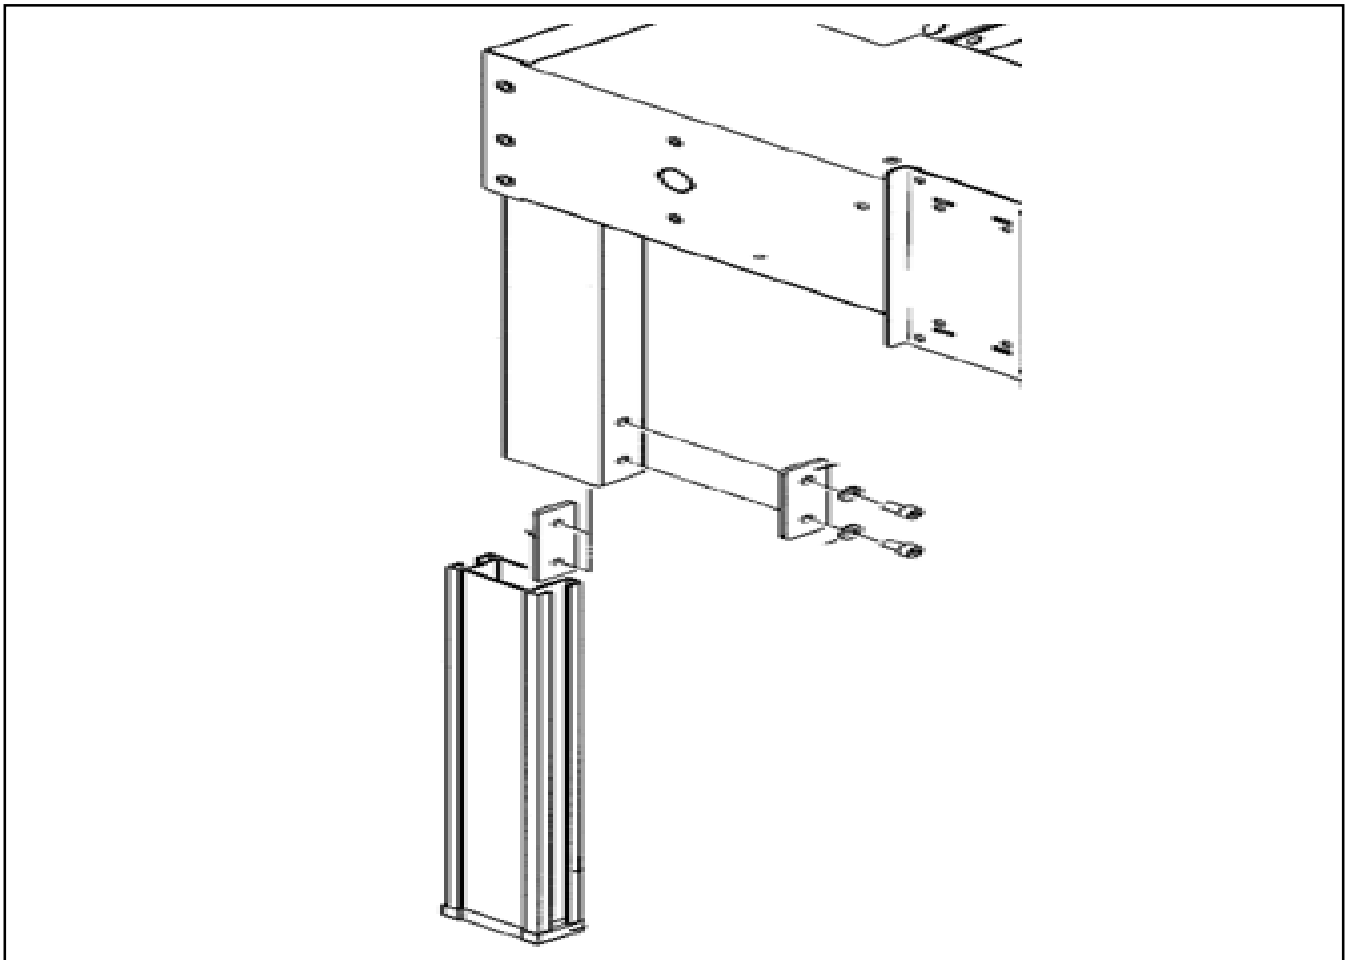

Figure 2-9—Machine Bed Height Adjustment
2. Using a 6 mm hex wrench, loosen the socket head screws that hold the inner leg assembly to the machine as shown in Figure 2-9.